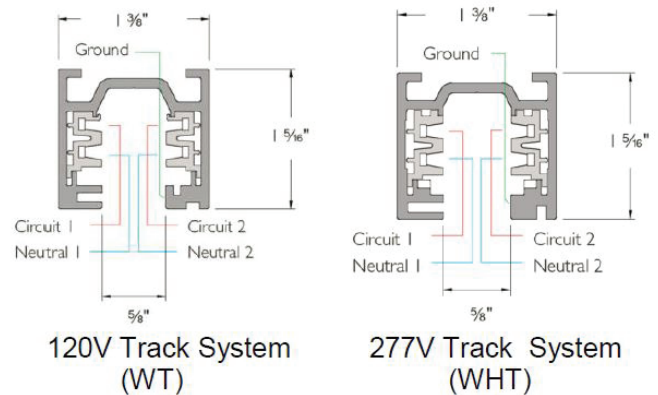

Figure 7
2. WTK-LED42W Fixture use on WAC WT 120V track system only, WHK-LED42W Fixture use on WAC WHT 277V track system only (Figure 7).